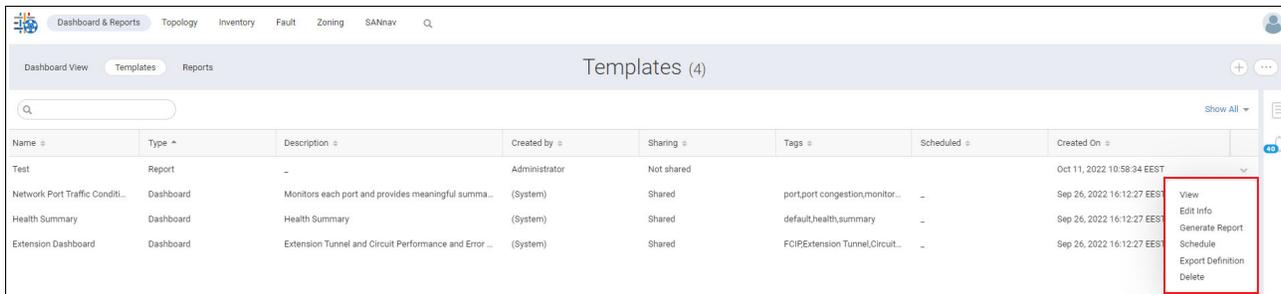

Figure 5-140 Editing the report
2. To edit the template name, tags, description, and sharing, find the report template that you want to modify, and from the action menu on the right side of the table, select **Edit Info** (Figure 5-140).